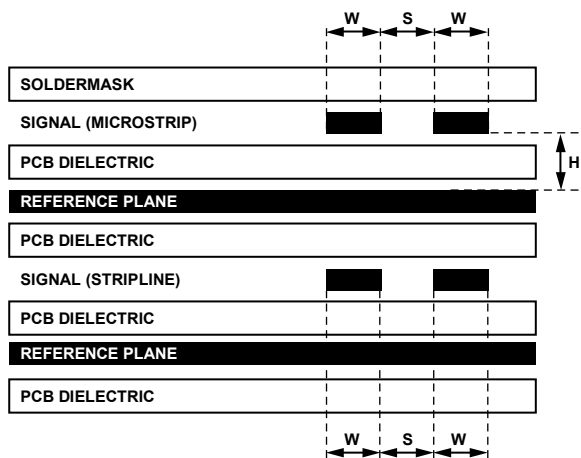

Figure 48. Example of a PCB Cross-Section
The high speed differential inputs and outputs should be routed with 100 Ω controlled impedance differential transmission lines. The transmission lines, either microstrip or stripline, should be referenced to a solid low impedance reference plane. An example of a PCB cross-section is shown in Figure 48. The trace width (W), differential spacing (S), height above reference plane (H), and dielectric constant of the PCB material determine the characteristic impedance. Adjacent channels should be kept apart by a distance greater than 3 W to minimize crosstalk.